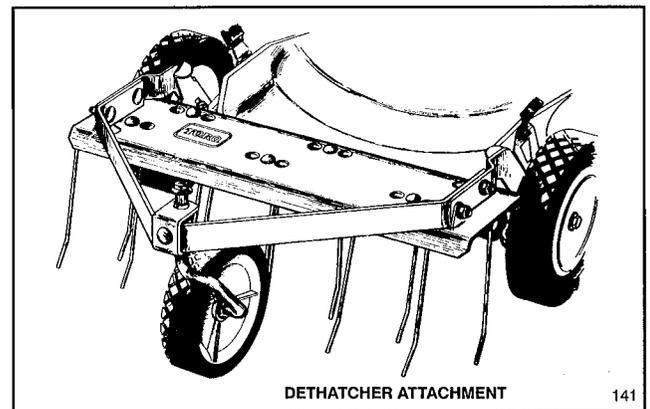

Figure 33
3. **Dethatcher Kit, Model 59131 (self-propelled model only)**—Installs in minutes. Front mounted for easy maneuverability. As spring tines scratch and vibrate through the grass, thatch is loosened and cut and recut by the mower (Fig. 33).